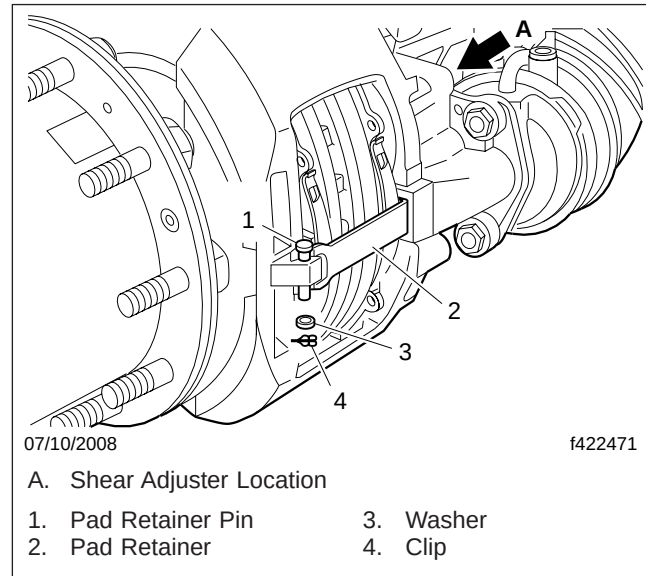

Fig. 4, Caliper Assembly
8. Remove the pad retainer clip and washer. See Fig. 4. Depress the pad retainer and remove the pad retainer pin. Discard all components that have been removed.